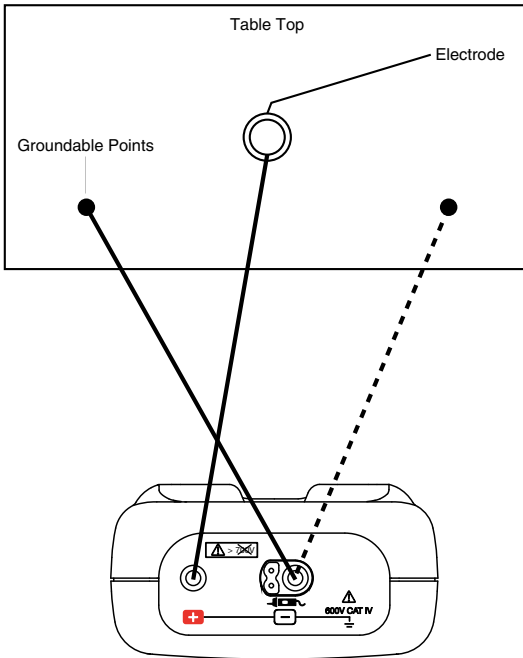

Figure 6
- Repeat this procedure with the Model 6536 connected between one weight and a known electrical ground (Figure 6 below).
- Resistance from test electrode to a groundable point (Figure 6): Measured value:  $\leq 10,000 \text{ M}\Omega$  (10  $\text{G}\Omega$ )